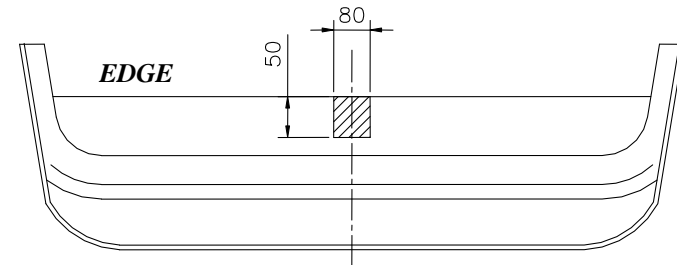

Fig. 2
4. Put main bar of the towbar (pos. 1) to chassis members and fix it using bolts M12x40mm (pos. 5) through original holes in members. Elements (pos. 4) slide through holes in rear slice.
6. Assemble the bumper after cut out fragment according to figure 2.
7. Fix body of the automat and place tow-ball according to supplied instruction. Note! Remember to place socket plate (pos. 3) as shown on the drawing 1.